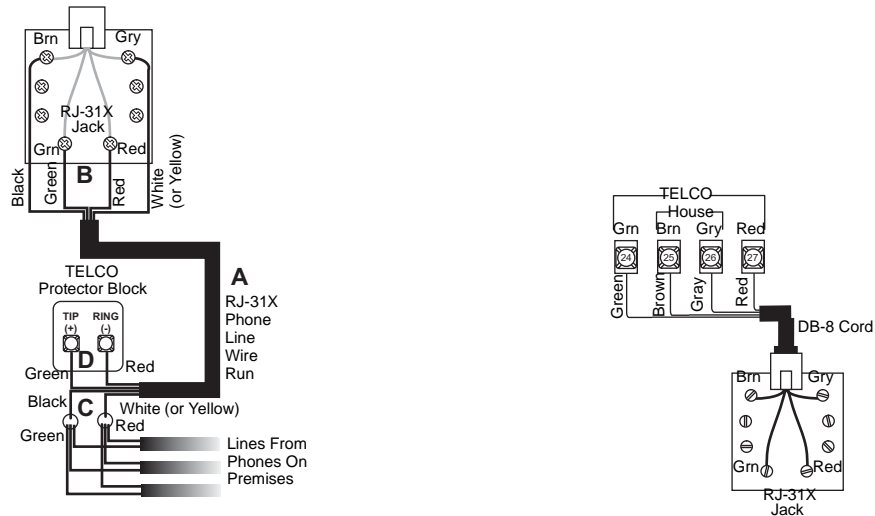

Figure 27. Connecting an RJ-31X Jack and DB-8 Cord
1. Run a 4-conductor cable from the TELCO protector block to the jack location (see A in Figure 27).
2. Connect one end of the cable to the jack (see B in Figure 27).
3. At the TELCO protector block, remove the premises phone lines from the block and splice them to the black and white (or yellow) wires of the 4-conductor cable (see C in Figure 27).
4. Connect the green and red wires from the 4-conductor cable to the TIP (+) and RING (-) posts on the block (see D in Figure 27).
➤ To connect the DB-8 cord to the panel terminals and RJ-31X jack (see Figure 27):